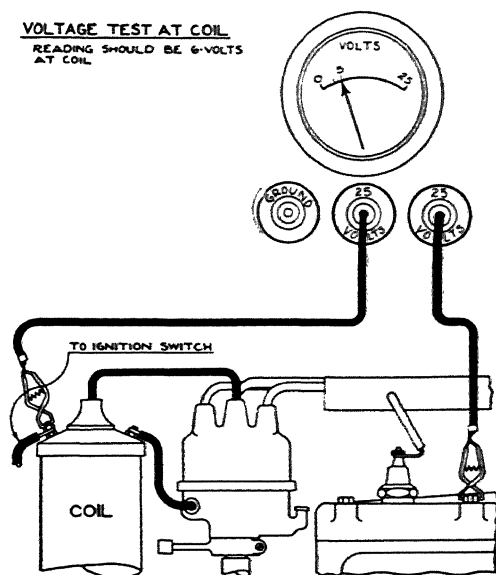
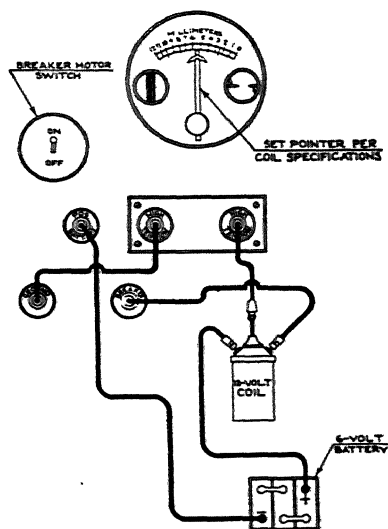

Fig. 15. Equipment Used in Determining Voltage at Coil
Fig. 19. Connections for 12-Volt Coil Test
Be sure that the washer is properly placed in hose adapter connection before making hook-up. Set the pointer on spark gauge at zero. Close the ignition switch and note voltmeter and ammeter readings. Should voltmeter register backward or reverse reading, reverse positions of voltmeter test leads at test panel. (With test leads in proper position, ignition switch closed and distributor points closed, Fig. 15, the voltmeter should read approximately 6 volts, not more than  $\frac{1}{2}$  volt less than open circuit battery voltage.) If the reading is less
**Voltage Test at Coil.** Connect voltmeter test leads, Fig. 15, to 25-volt terminals on panel. Connect other ends of test leads to battery side of coil to ground on engine. The reading should be 6 volts for a 6-volt coil. The test for a 12-volt coil is shown in Fig. 19.